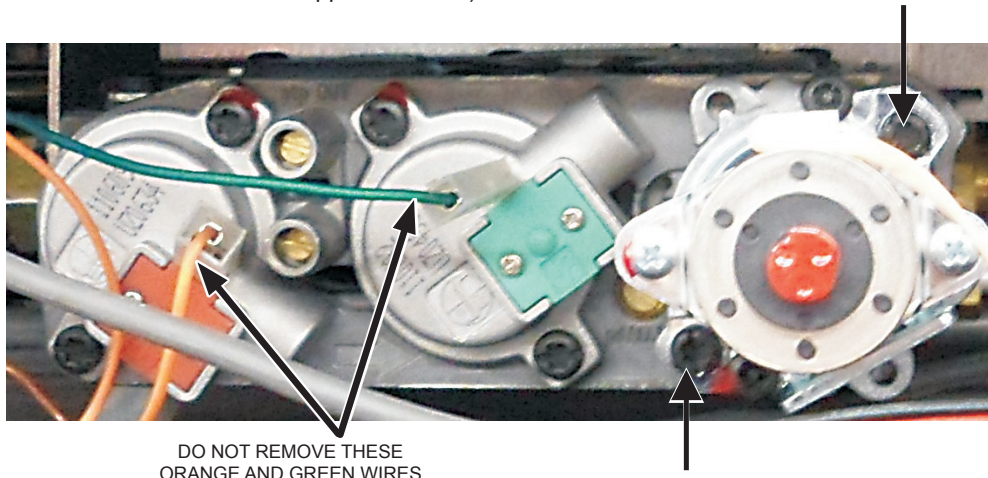

Figure 2
6. Install the stepper motor to the valve with the two 1/2 inch screws provided with the kit. **See Figure 2.** (Refer to the instructions included with the stepper motor kit.)